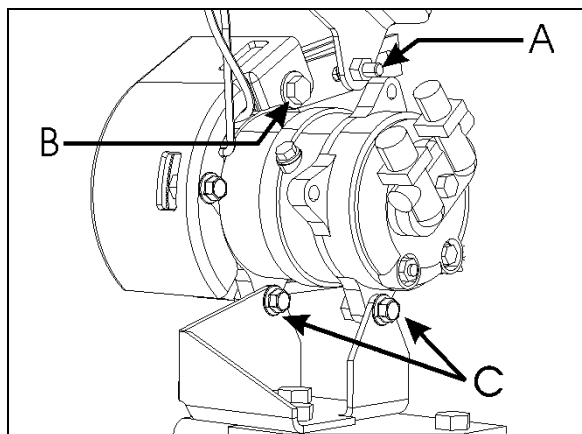

FIGURE 37: COMPRESSOR REMOVAL OR INSTALLATION 22349
- * Slacken bolts A (Refer to figure 37).
- * Remove bolts B & C (Refer to figure 37).